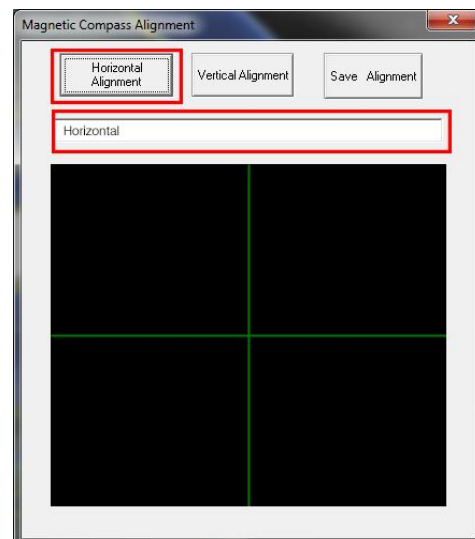

Figure 40
3. Click “Horizontal Alignment” for horizontal calibration, as shown in Figure 40.